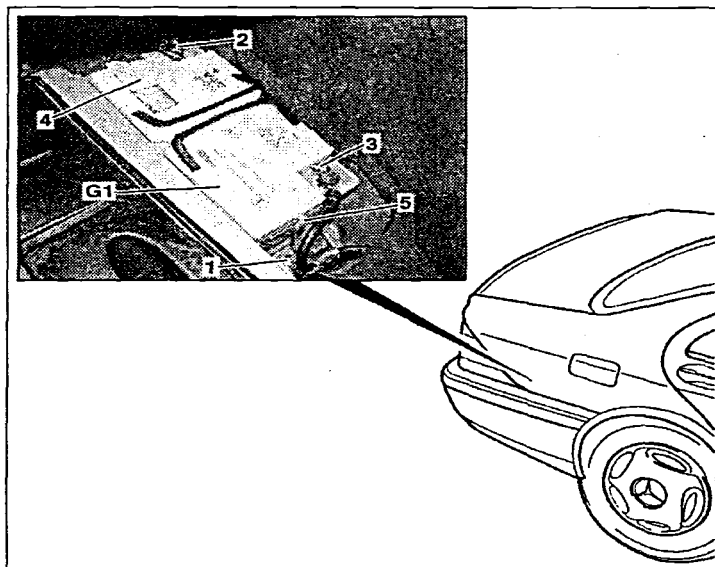
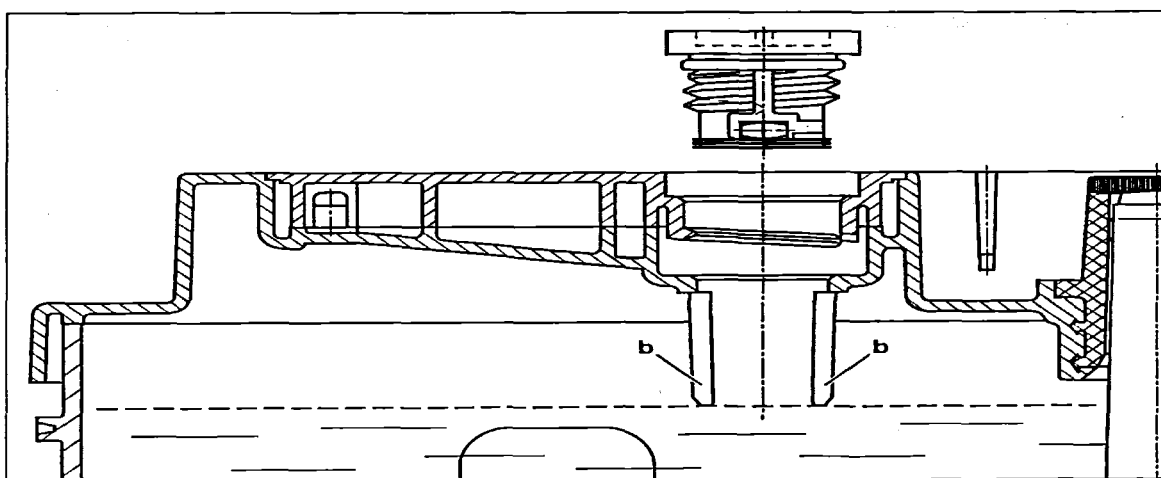
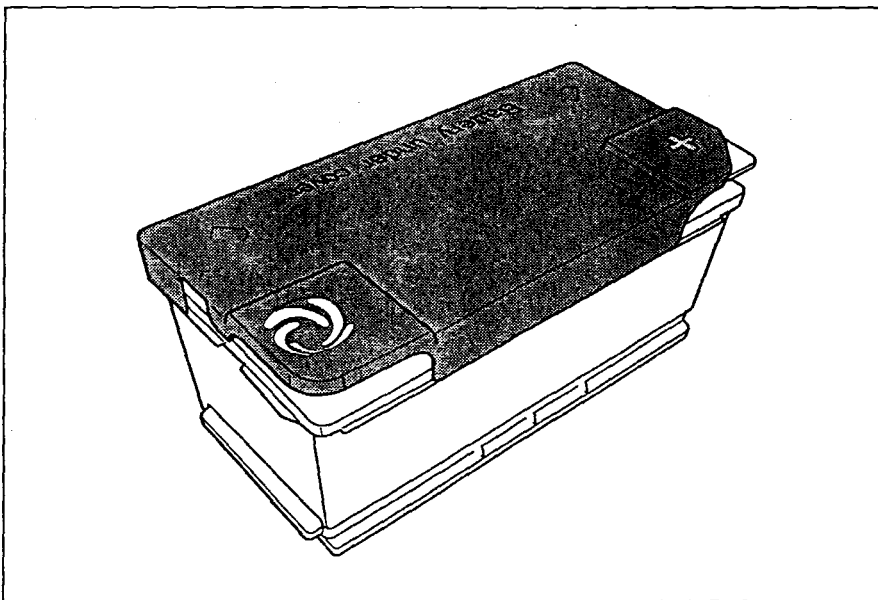

Figure 1
Figure 2
Figure 3
DCAG has determined that S-Class vehicles for Model Year 2000 and 2001 require the installation of an anti-static insulation cover (gray cover, Figure 3, page 3) over the wet cell starter battery case. Additionally, a battery electrolyte level check (b, Figure 2, page 2), must be performed as part of this Recall Campaign. The battery (G1, Figure 1) is located on the right hand side of the trunk. Attached is a sample copy of a letter which owners of the effected vehicles will receive.
3. Open trunk and fold up trunk floor cover to gain access to the battery (G1, Figure 1).
4. Visually inspect the acid level in each cell by opening each battery cell fill cap, making sure that the acid level is to the lower edge of the filler neck (b, Figure 2).
5. If the battery acid is below the upper marking line, carefully refill battery to the lower edge of the filler neck (b, Figure 2) with distilled water, using an appropriate Automatic Battery Filler (see Equipment Information Table). Ensure that all battery cell fill caps are securely tightened, after filling.
6. Ensure that the 90° vent fitting (5, Figure 1) is plugged into the battery case and that the vent line (5, Figure 1) is routed properly and is open (not kinked/pinched) thus venting the battery vapors overboard. Additionally, ensure that the vent hole at the opposite end of the battery case is properly plugged.
7. Inspect the positive and negative battery terminals (2, 3, Figure 1) for proper tightness. Clean and tighten as necessary.
8. Check positive battery terminal cover (4, Figure 1) for proper installation. The cover must be installed into the holes as provided in the battery case for this purpose. The perforated corner on the positive battery terminal cover must be removed.
9. Check bolt (1, Figure 1) of the battery mount for tightness.
10. Install battery anti-static insulation cover (Gray cover, Figure 3) onto battery by first placing cover over the top of the battery (White case, Figure 3), with the "+" marking of the cover positioned over the positive terminal of the battery. Evenly press down on the battery static insulation cover, and notice that the cover will "snap" into place (Figure 3), over the top of the battery case.
11. Visually ensure that the "spiral plastic" (gray cover, Figure 3) above the negative post area of the cover is indeed making contact with the battery negative terminal.